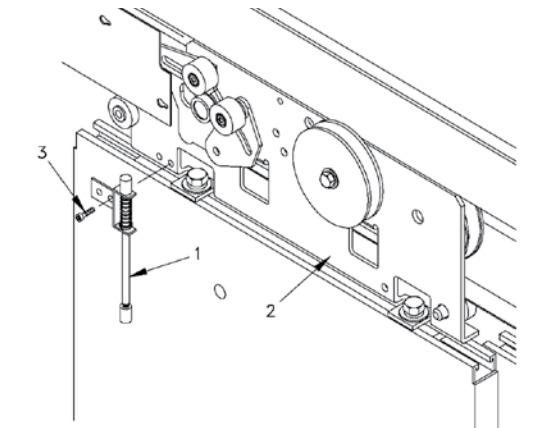

Figure 24 Install Unlocking Device
1. See Figure 24 below. Secure the unlocking device (1) to the landing door hanger (2) with screws (3). Note that the screws will self-tap into the holes on the hanger.